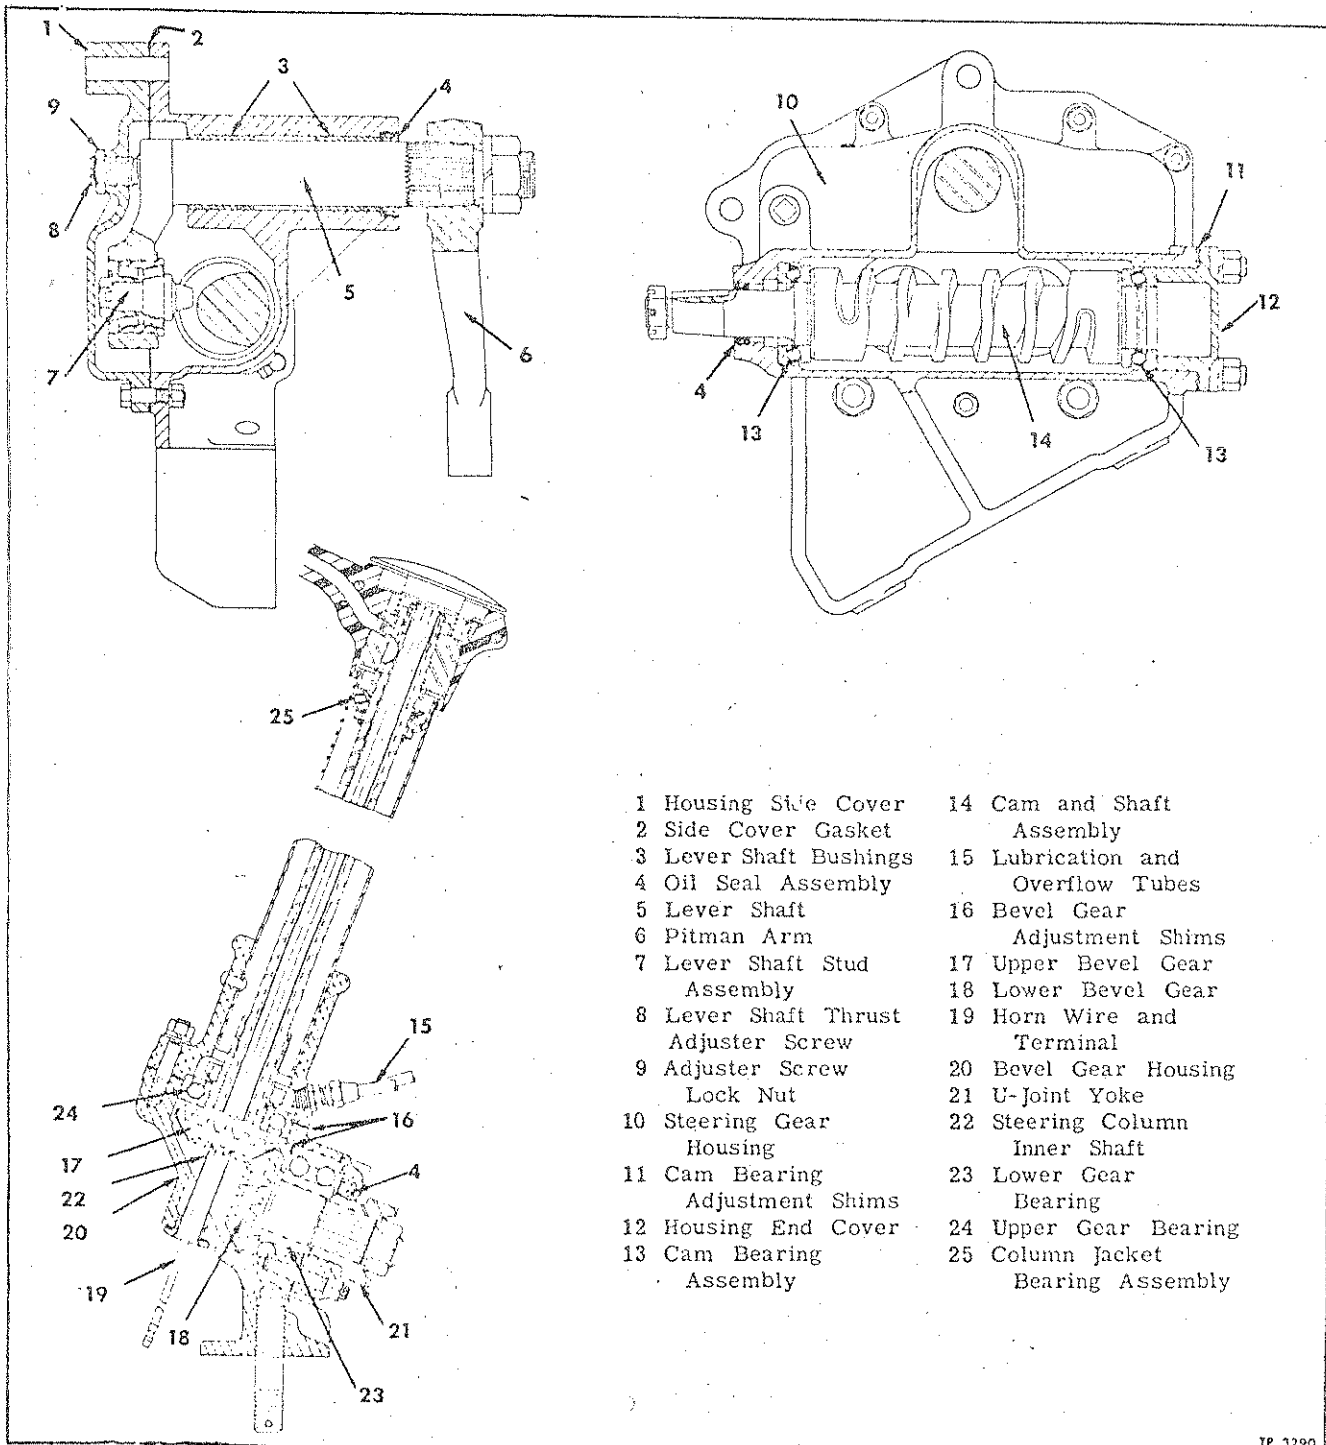
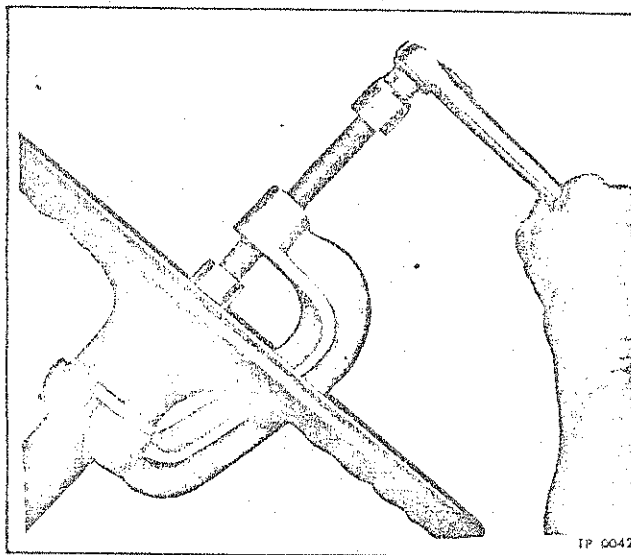

Figure 2—Steering Gear Construction
Figure 4—Removing Steering Wheel—
Steering gear, figure 2, is cam and roller twin lever type. The only contact between actuating and actuated members of gear is rolling-line-contact between lever studs and cam thread. Clearance between studs and cam can be adjusted by means of adjusting screw and lock nut, accessible from under vehicle, as described under "Steering Gear Adjustments" in this section.
CAM BEARING ADJUSTMENT (Fig. 2)
Before making this adjustment, loosen the lever shaft thrust adjusting screw (8, fig. 2) to free the studs in the cam groove, then proceed as follows:
LEVER SHAFT THRUST ADJUSTMENT (Fig. 2)
ADJUSTING BEVEL GEAR BACKLASH (Fig. 2)
3. Remove steering wheel retaining nut, then, using steering wheel puller (Tool No. J-452-G) as illustrated in figure 4, pull wheel off upper steering shaft and remove key from keyway in upper shaft.
5. Disconnect universal joint, at bevel gear housing, by removing U-bolts (18) which attach journal (19) of joint to splined yoke (16).
6. Disconnect lubrication and overflow tubes (15, fig. 2) at bevel gear housing.